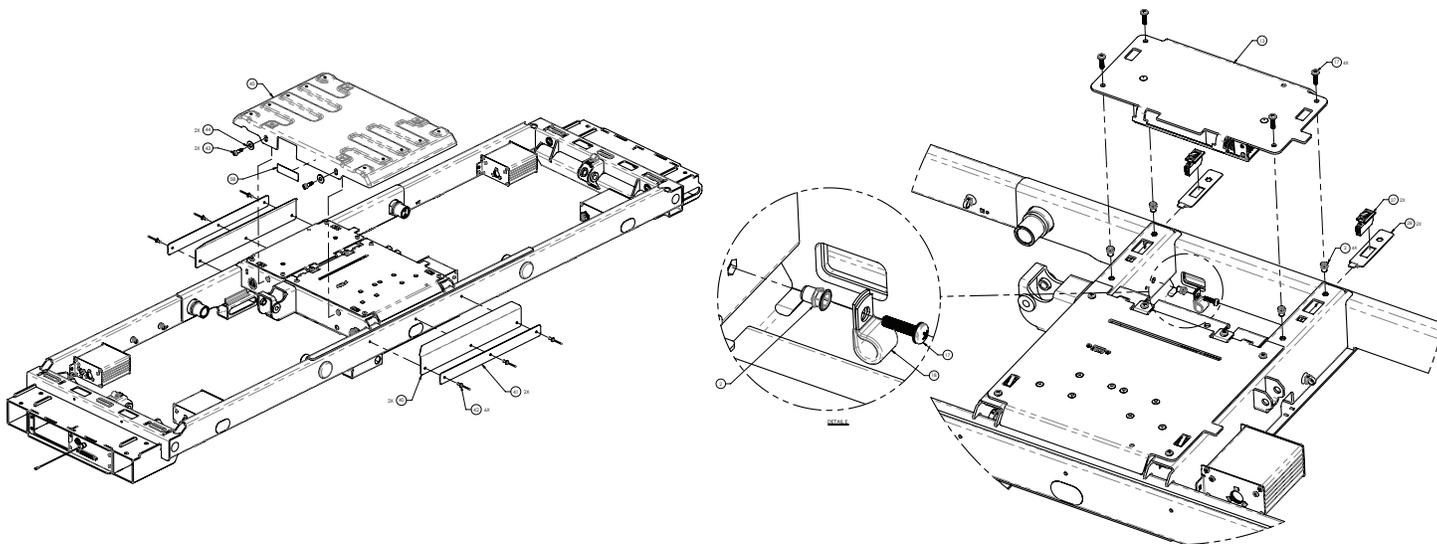

Figure 9 – Power supply replacement
6. Using a 5/32" hex driver, remove and save the two screws (43) and flat washers (44) that secure the motion interrupt pan (45) to the litter frame. Remove the motion interrupt pan (45) (Figure 9).
7. Using a #2 Phillips screwdriver, remove and save the two screws (17) from the power supply mounting bracket closest to the center of the bed (Figure 9).
8. Using a #2 Phillips screwdriver while supporting the power supply mounting bracket with one hand, remove and save the two screws (17) from the power supply mounting bracket closest to the outside of the bed (Figure 9).
13. Lift up to remove and discard the power supply assembly (13) from the litter frame (Figure 9).